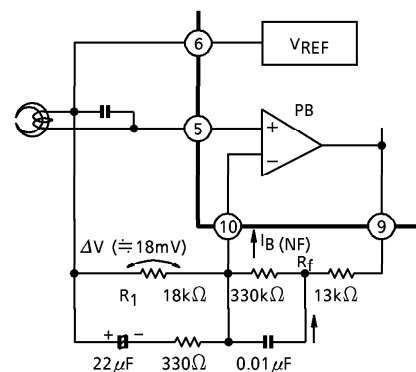

Fig.1 DC output voltage of playback amplifier.
In case that β of transistor is assumed 100, I_B (NF) is flowed 0.2μA in Fig.1. And output voltage of playback amplifier (pin⑧, ⑨) in Fig.1 is